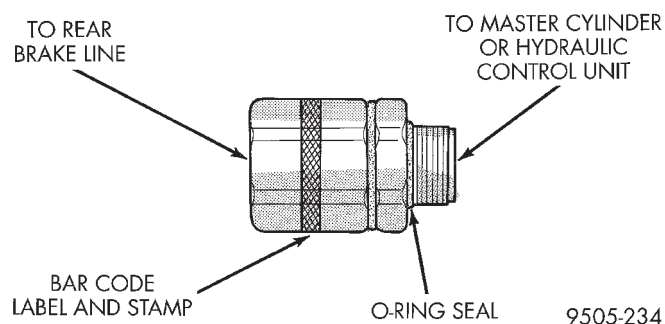

**Fig. 8 Proportioning Valve Identification**
**CAUTION:** Proportioning valves (Fig. 8) should never be disassembled.